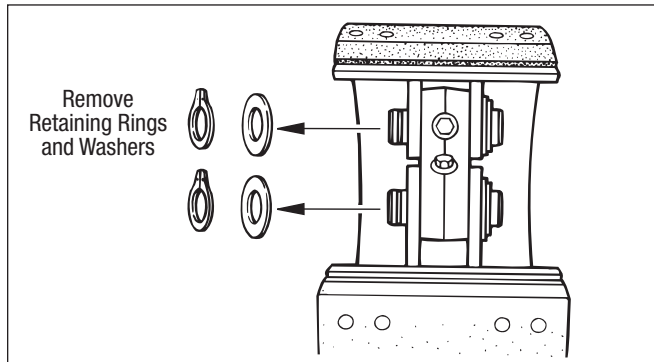

Figure 19 – Retaining Ring and Washer Removal
1. Remove the retaining ring and washer from the drum side of both anchor pins. Refer to Figure 19.